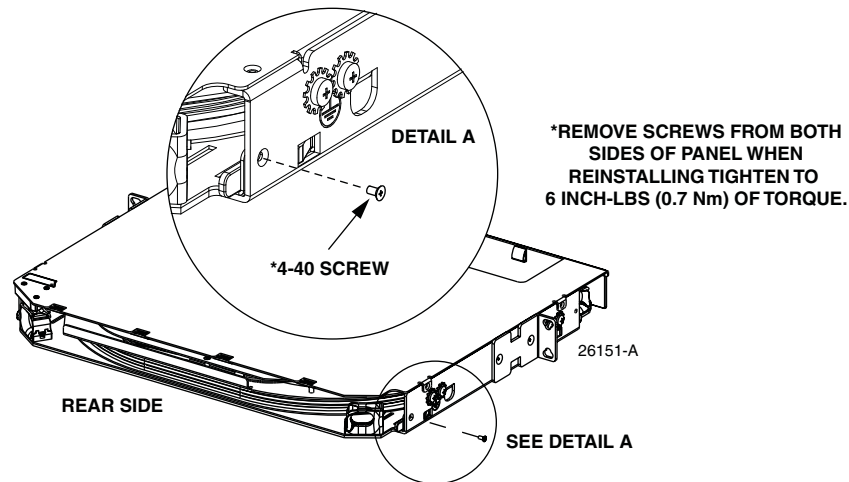

Figure 21. Location of #4-40 Bonding Screws
- a. Remove the two #4-40 bonding screws located on either side of the panel at the points indicated in Figure 21. Save both screws for reuse.
- g. Re-install the two #4-40 bonding screws (removed in step 8a) on either side of the panel (see Figure 21); tighten to 6 inch-lbs (0.7 Nm) of torque.